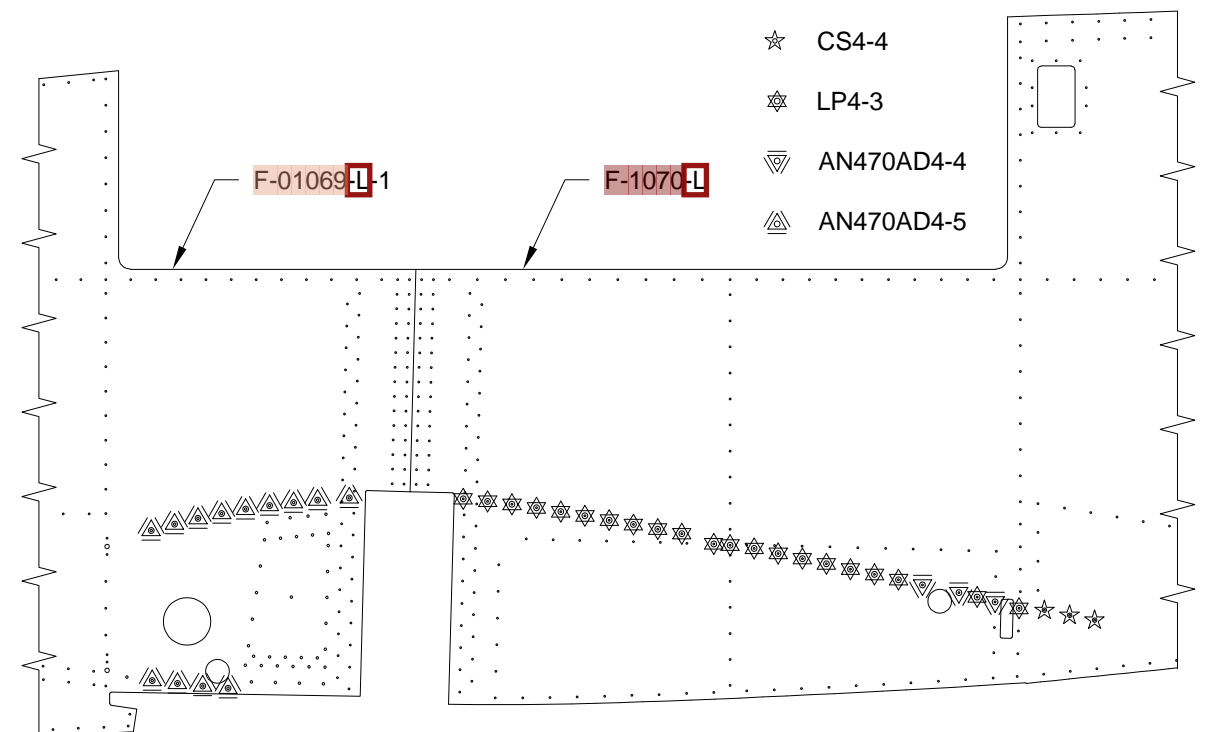

FIGURE 3: ATTACH WING ROOT FAIRING SUPPORTS
Step 8: Rivet the F-1099F-L and the F-1099G-L Wing Root Fairing Supports to the F-01069-L-1 Forward Side Skin and rivet the F-1099E-L and the F-1099H-L Wing Root Fairing Supports to the F-1070-L Mid Side Skin using the rivets shown in the callouts in Figure 3.